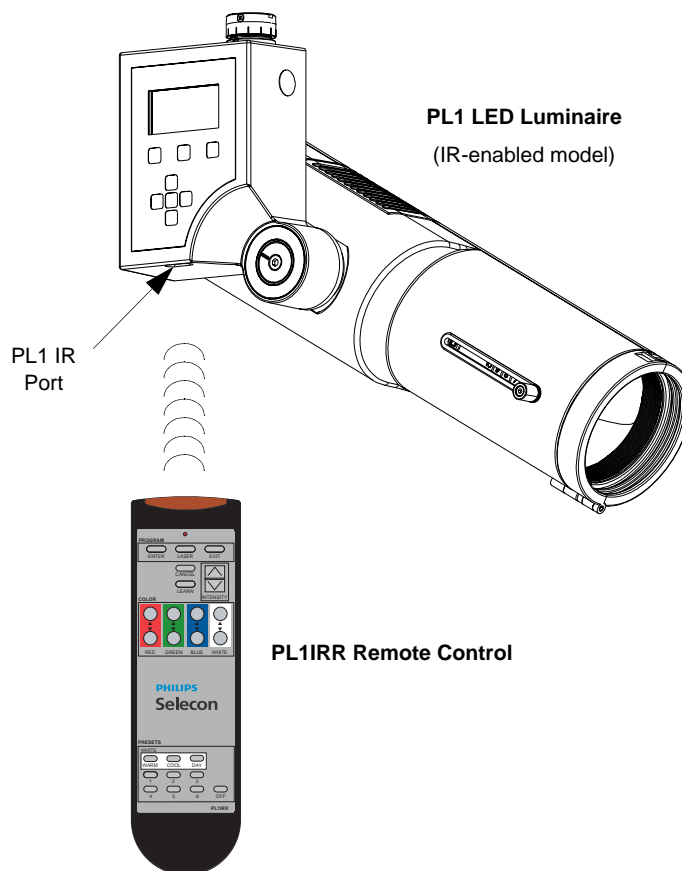

Figure 4: PL1 LED Luminaire Programming / Control
- Step 1. Point PL1IRR programming remote Laser / IR window directly at luminaire IR programming window (as shown in **Figure 4**) and hit "Enter" button. Note, each luminaire to be programmed/adjusted needs to be selected and programmed/adjusted individually.